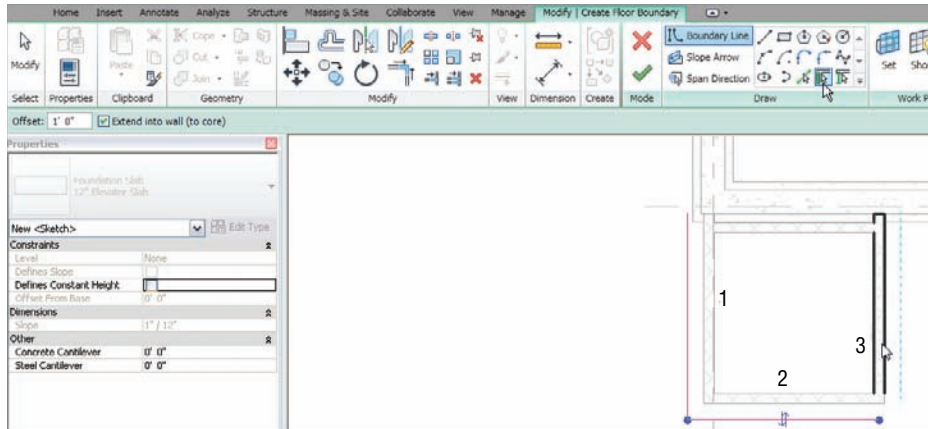

FIGURE 8.61 When picking the elevator shaft walls, be sure to include the 1'-0" (300mm) offset.
13. Pick the three elevator shaft walls, as shown by the numbers in Figure 8.61.